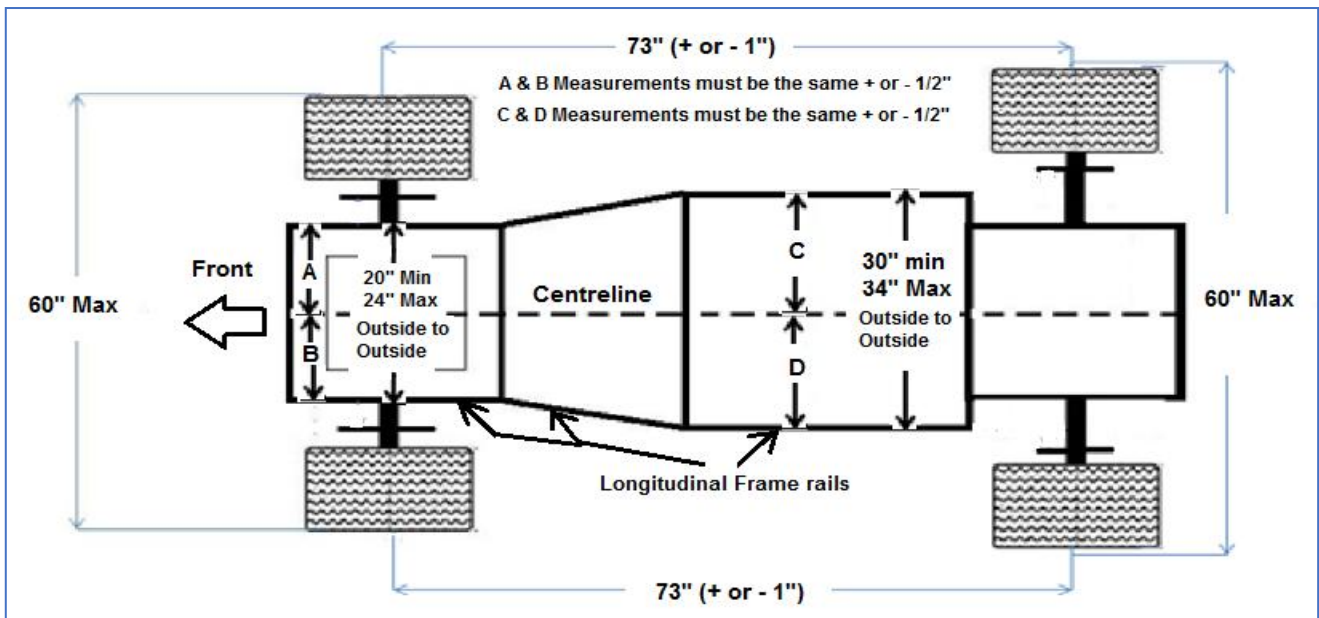

Figure 17
- 24.1** Maximum frame width is 34 inches and the minimum frame width is 30 inches (no tolerance). These are outside dimensions (*Figure 17*).
- 24.7** Frame rails may taper inward, forward of driver seat area (*Figure 17*).